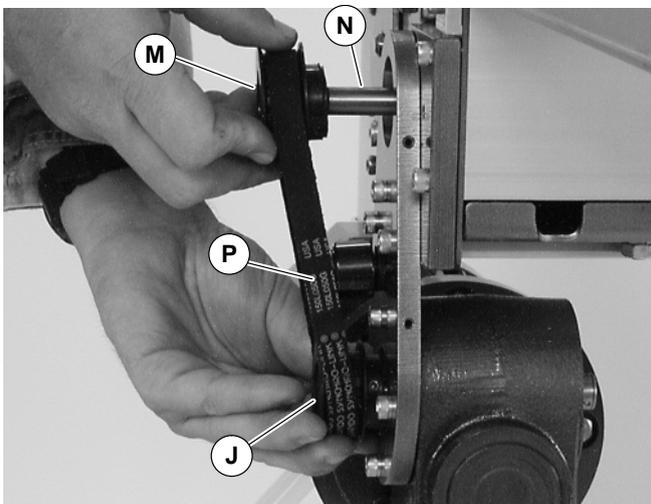

Figure 8
- Install key (N of Figure 8).